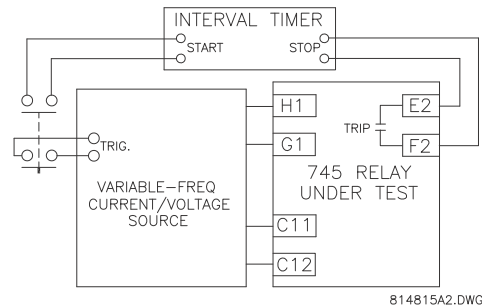

FIGURE 7-12: Frequency element testing
- ▷ Connect the signal source and timer start triggers as shown in FIGURE 7-12: *Frequency element testing* on page 7-44.